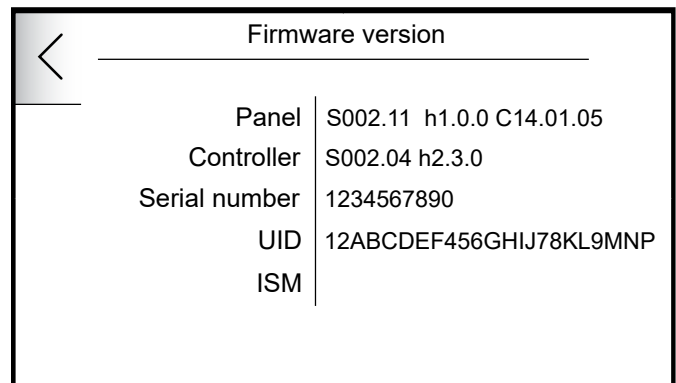

Figure 10-7 Firmware version and UID.
4. Then tap 'Firmware version'. Refer to Figure 10-7.